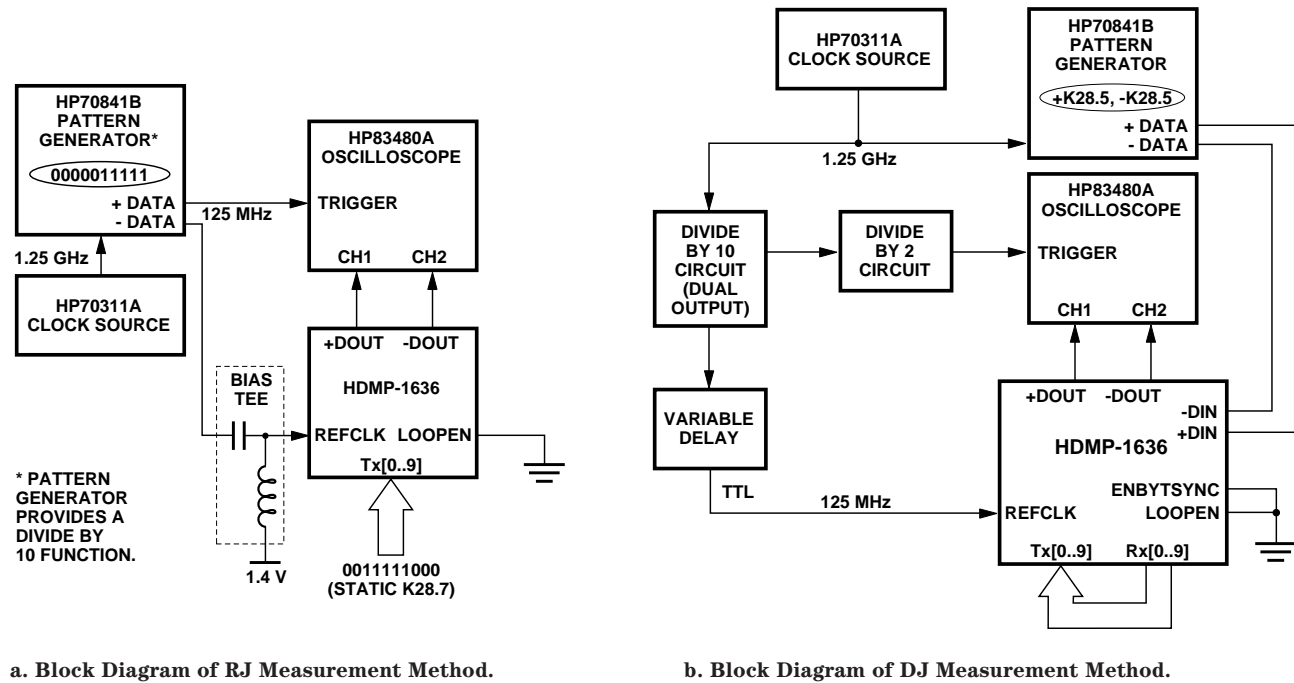

Figure 8. Transmitter Jitter Measurement Method.
- Defined by Fibre Channel Specification X3.230-1994 FC-PH Standard, Annex A, Section A.4 and tested using measurement method shown in Figure 8.